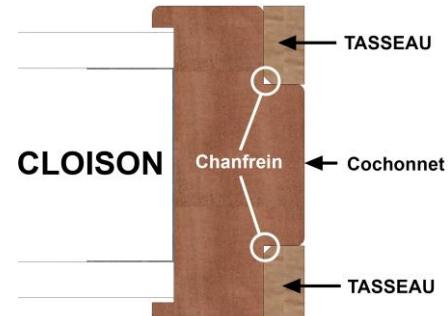

Figure 2
5.3.1.2. CAS AVEC FEUILLURE ET CONTRE FEUILLURE SUR MONTANTS SEULEMENT (SECTION MINI 118x56) - figure 2 -